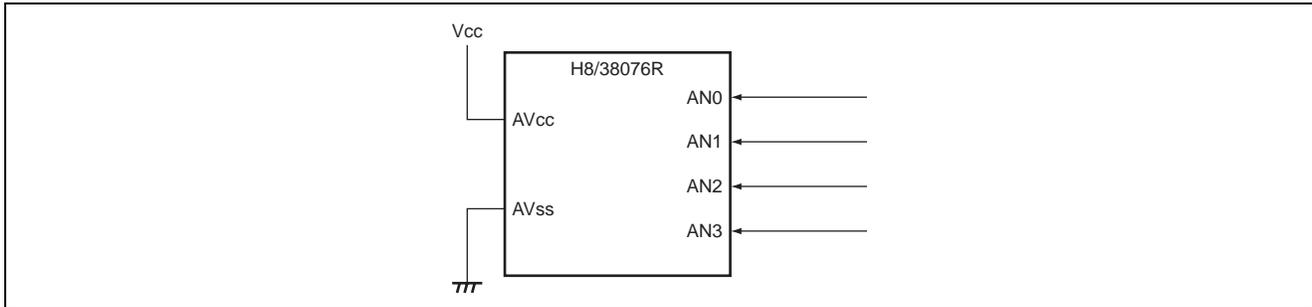

Figure 1 Voltage Measurement by 4-Channel A/D Conversion
- A sample connection diagram is shown in figure 1.